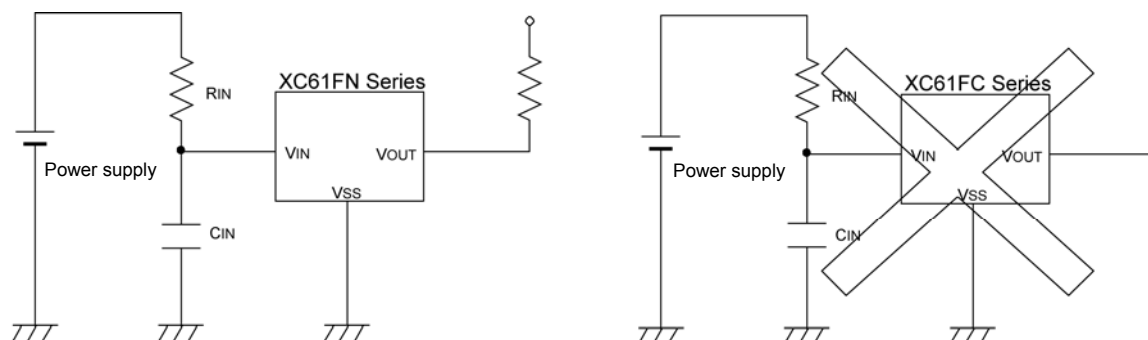

Figure 1. When using an input resistor
2. When a resistor is connected between the V_{IN} pin and the power supply with CMOS output configurations, oscillation may occur as a result of voltage drops at R_{IN} if load current (I_{OUT}) exists. It is therefore recommend that no resistor be added. (refer to Oscillation Description (1) below)
3. When a resistor is connected between the V_{IN} pin and the power supply with CMOS output configurations, irrespective of N-ch output configurations, oscillation may occur as a result of through current at the time of voltage release even if load current (I_{OUT}) does not exist. (refer to Oscillation Description (2) below)
4. If a resistor (R_{IN}) must be used, then please use with as small a level of input impedance as possible in order to control the occurrences of oscillation as described above. Further, please ensure that R_{IN} is less than $10k\Omega$ and that C_{IN} is more than $0.1\mu F$, please test with the actual device. However, N-ch open drain output only. (Figure 1).